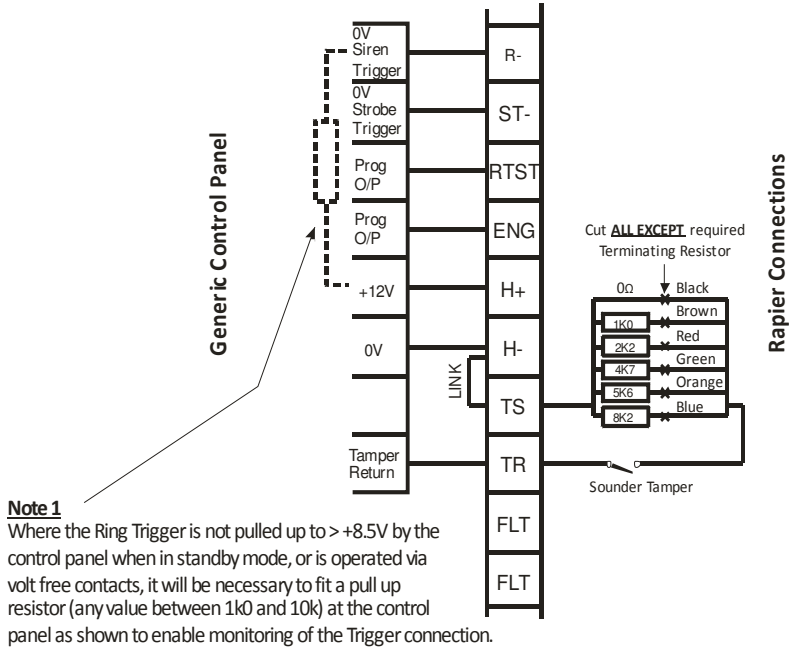
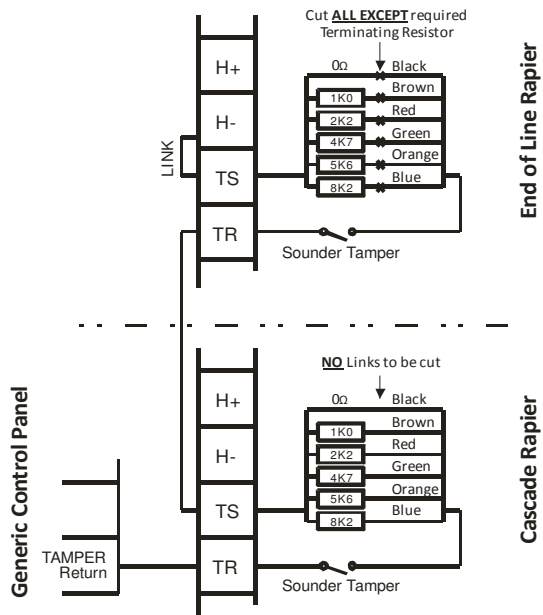

Fig 1: Single Rapier Tamper Connection
Fig 2: Multiple Cascade Rapier Tamper Connection
The Rapier sounder has provision for inclusion of an end of line resistor in the tamper circuit for both single (Figure 1) and multiple cascade installations (Figure 2). In cascade installations with two or more sounders, the TS (Tamper Source) will normally be connected to the TR (Tamper Return) of the next sounder except for the last unit which will have TS linked to H-. Only ONE end-of-line resistor should be selected in the last sounder, all other units should have 0Ω selected.
- 8) Connect cable cores to terminations. Figure 1, shows connections for generic control panels.
R- not pulled up to +12V in standby mode	Fit pull up resistor to R- at control panel. See Fig 1, Note 1
Tamper Source (TS) not connected to H- for single sounder or to Tamper Return (TR) for cascaded sounders	Refer to connection diagrams for single and cascaded sounders (Figures 1 and 2)